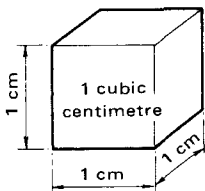

Fig. 1.43
**Volume.** We measure volume by seeing how many cubic units an object contains. 1 cubic centimetre (abbreviation:  $\text{cm}^3$ ) is the volume contained inside a cube whose edge is 1 cm (Fig. 1.43). Similarly 1 cubic metre (abbreviation:  $\text{m}^3$ ) is the volume contained inside a cube whose edge is 1 m.